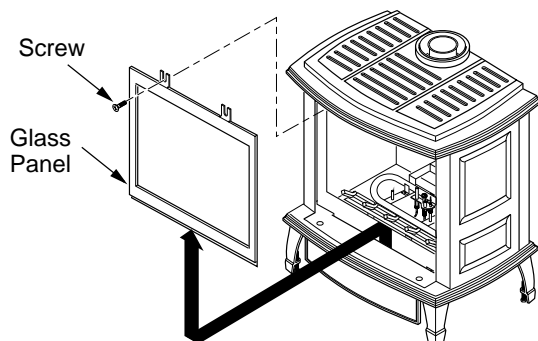

Figure 8 - Removing Glass Panel from Burner System
4. Grasp panel by both sides and ease it upward off of the lower bracket (see Figure 8)